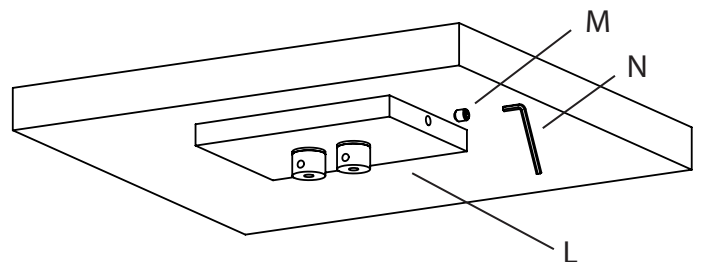

Fig. 6
16. Attach Power Feed (L) to mounting bracket (J). Secure using set screw (M) and included Allen key (N). (Fig. 6)